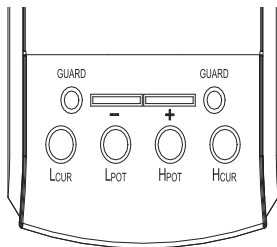

Figure 4
- a When using square terminals, the square terminals and $L_{CUR}/L_{POT}/H_{POT}/H_{CUR}$ terminals hang in the air (shown in figure 4);